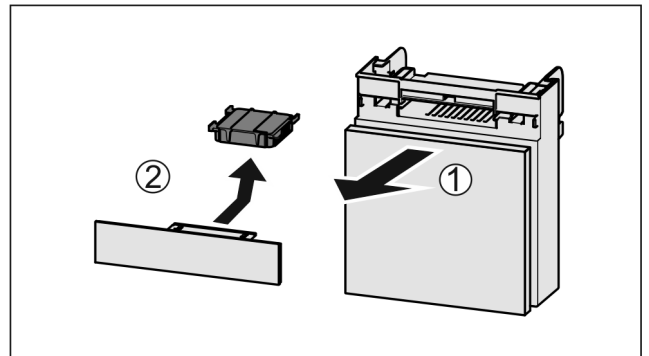

Fig. 185
- Pull out the compartment Fig. 185 (1).
- Remove the carbon filter Fig. 185 (2).